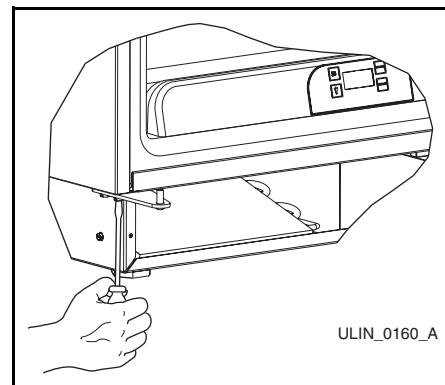

Figure 34
8. Install bottom hinge on cabinet, opposite side, aligning flat edge of hinge with outer edge of unit **(Figure 34)**. Partially tighten screws.